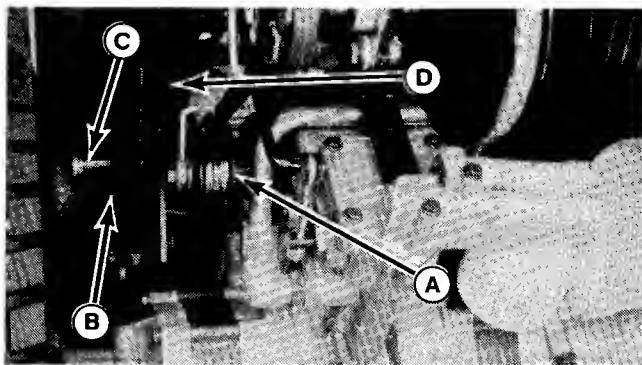

Figure 23.
3. Remove clutching idler pulley assembly (A, Figure 23) from bushing assembly (B) by removing spring clips and pin (C). With pulley assembly on ground, remove clutch rod (D) and spring clip.
5. Reinstall clutch rod (D) and spring clip. Install clutching idler pulley (A, Figure 23) to bushing assembly (B) and secure with pin (C) and spring clip.